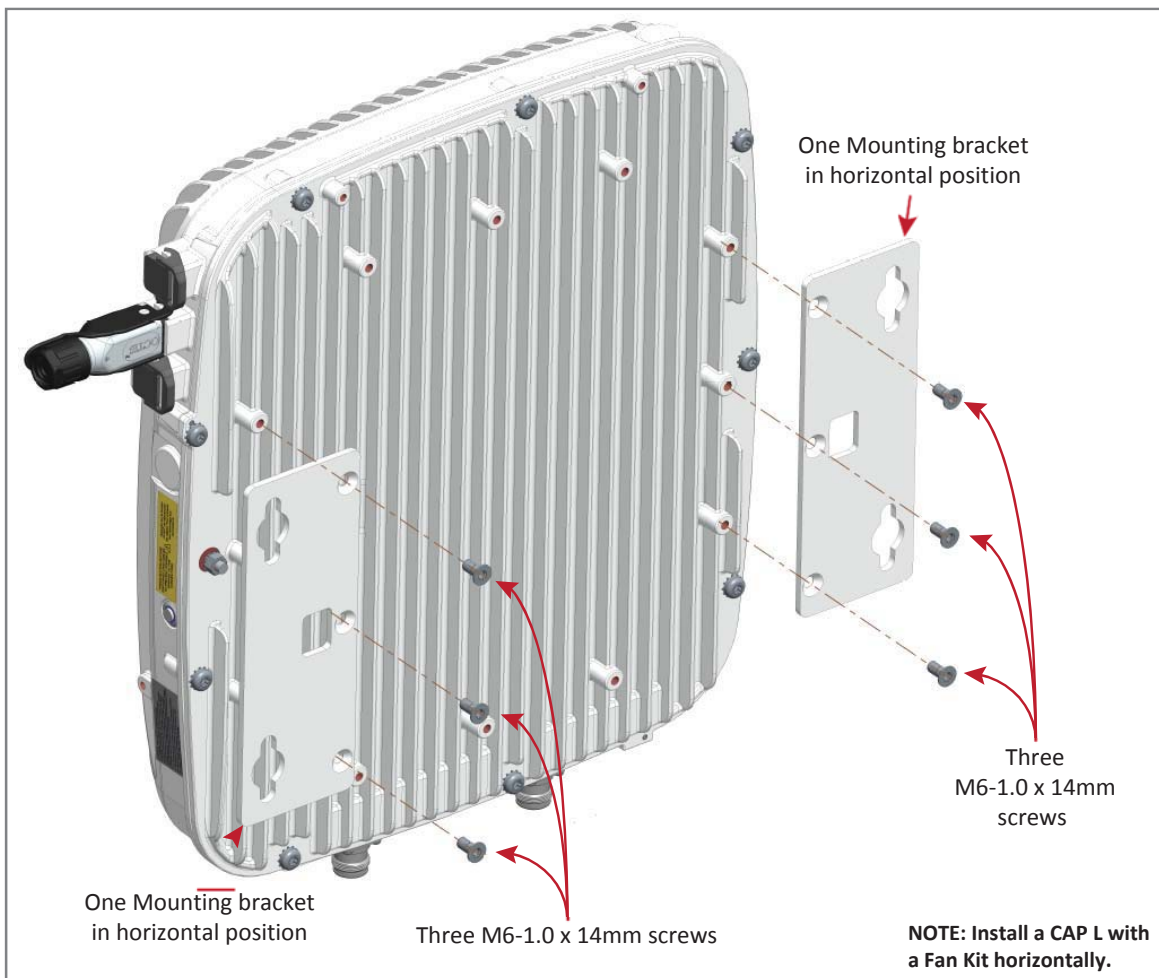
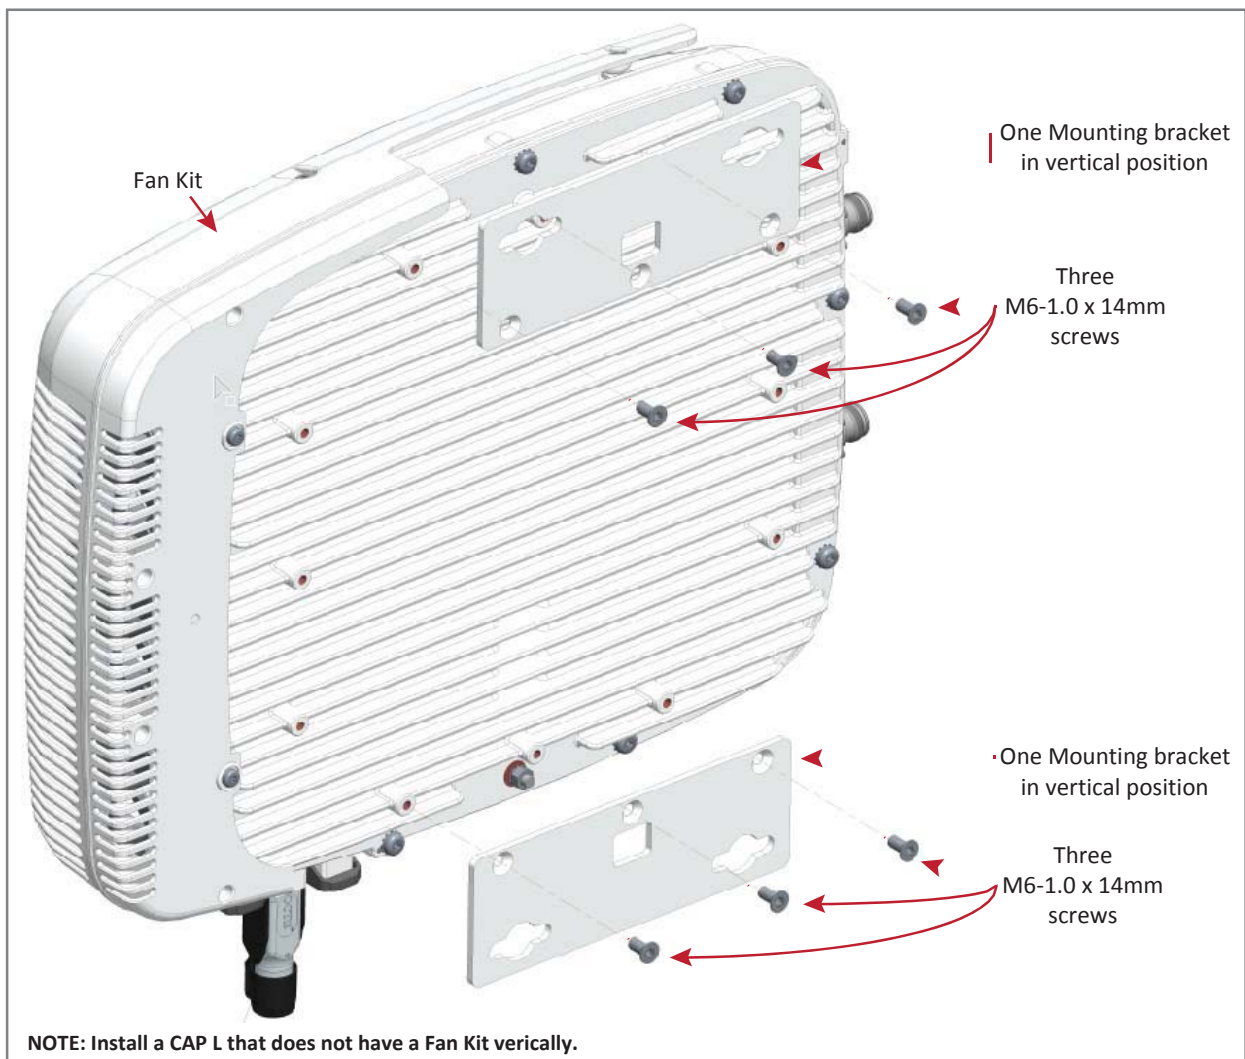

Figure 9. CAP L (No Fan Kit) with Flat Mounting Bracket Kit (PN 7774353-xx)
Figure 10. CAP L with a Fan Kit and Flat Mounting Bracket Kit (PN 7774353-xx)
- 5 Attach the two mounting brackets to the back of the CAP L enclosure as described below and as shown in Figure 9 (CAP L with a Fan Kit) and Figure 10 on page 25 (CAP L without Fan Kit).